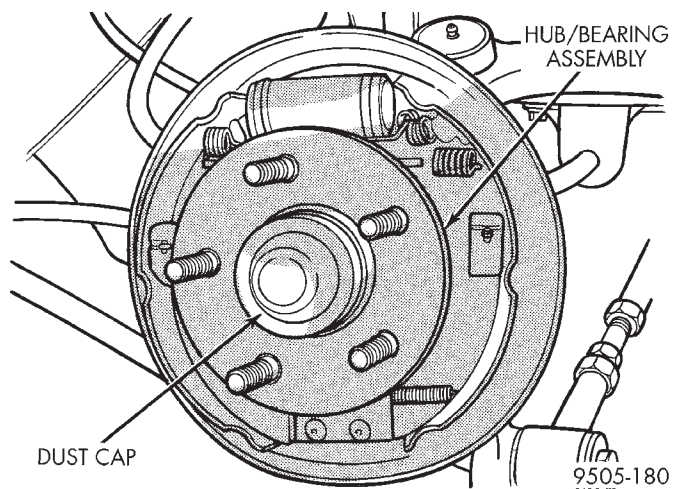

Fig. 147 Rear Hub/Bearing Dust Cap
(18) Remove dust cap (Fig. 147) from rear hub/bearing assembly.
(6) Install hub/bearing assembly dust cap, (Fig. 147) using a soft faced hammer.